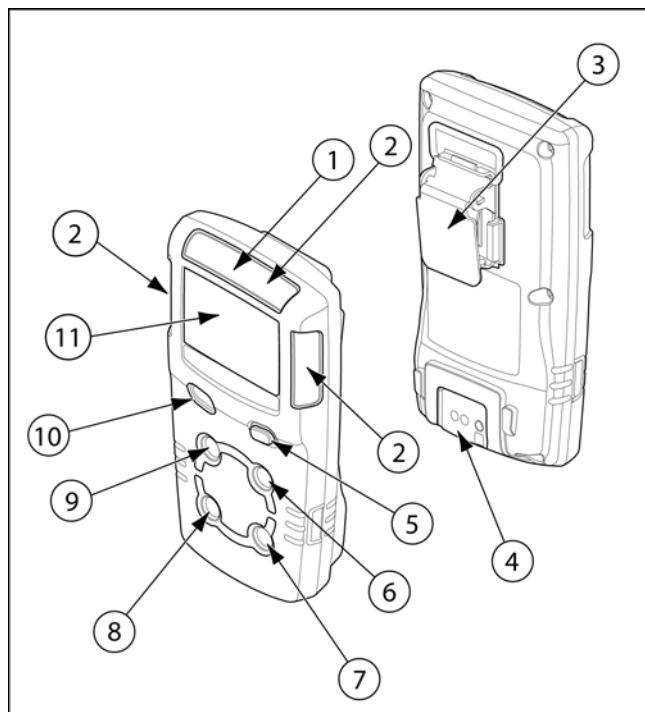

Figure 1. Parts of the GasAlertMicroClip
- Figure 1, and Table 3, describes the detector's components.